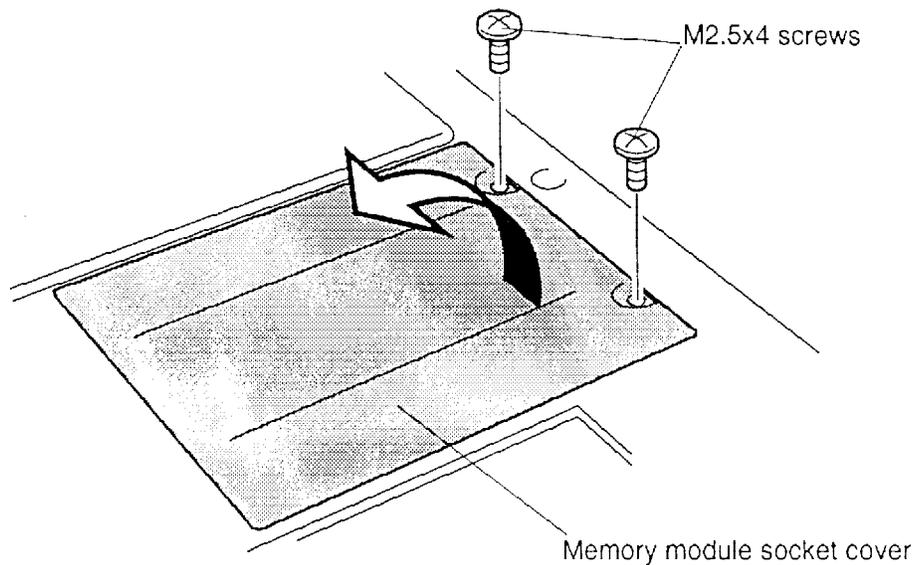

Figure 4-4 Removing the memory module socket cover
To remove an optional memory module from the 610CT, follow the steps below and refer to figure 4-4.
5. Slide your fingernail or a thin object under the cover and remove it (figure 4-4).
To install an optional memory module in the 610CT, follow the steps below and refer to figures 4-4 through 4-6.
3. Fold down the plastic tab and lay the cover in place. Secure it with two screws (figure 4-4).